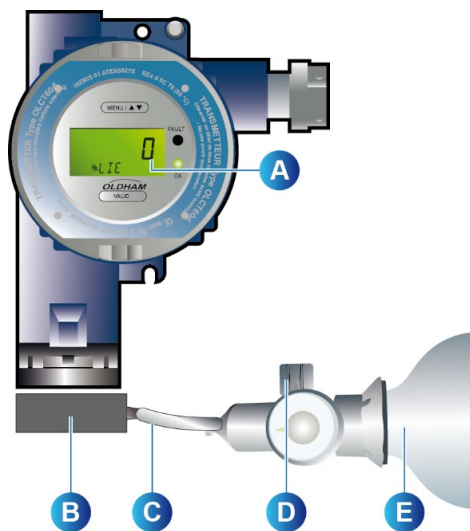

Figure 26: Checking Zero
2. Place the calibration cup over the sensor (Figure 26, rep. B).